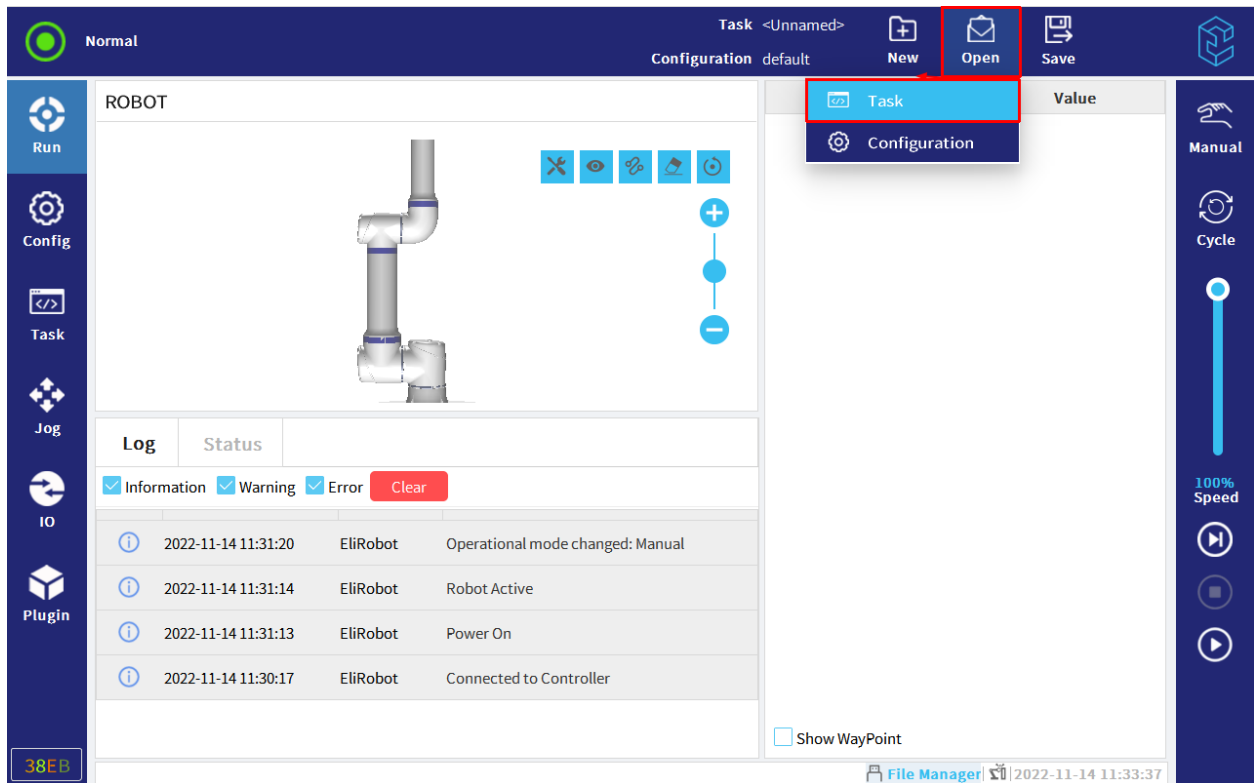

Figure 8-7 Open task
1. In task and configuration manager, click "Open" and then select "Task", as shown in Figure 8-7.